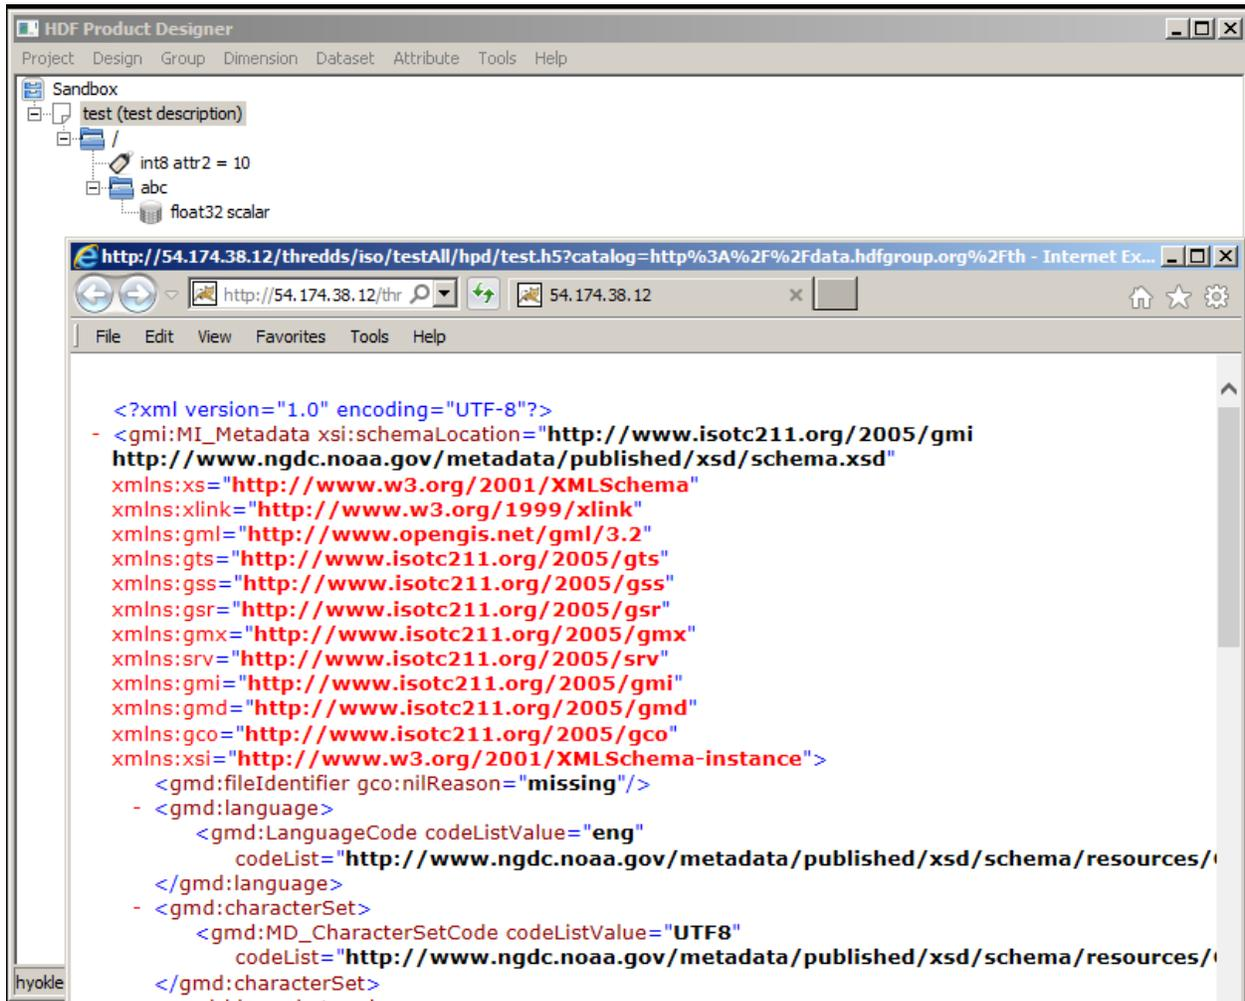

Fig. 5.28: ISO metadata output from HPD Online
- If no errors, the design's ISO metadata will appear in a web browser window (Fig. 5.28).